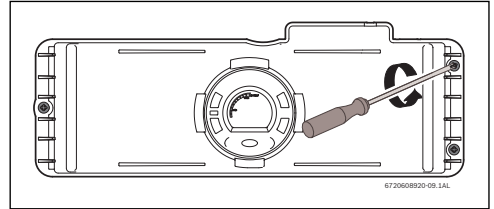

Fig. 1 Control unit front
- ▶ Remove three Phillips screws on front of control unit (Fig. 1).